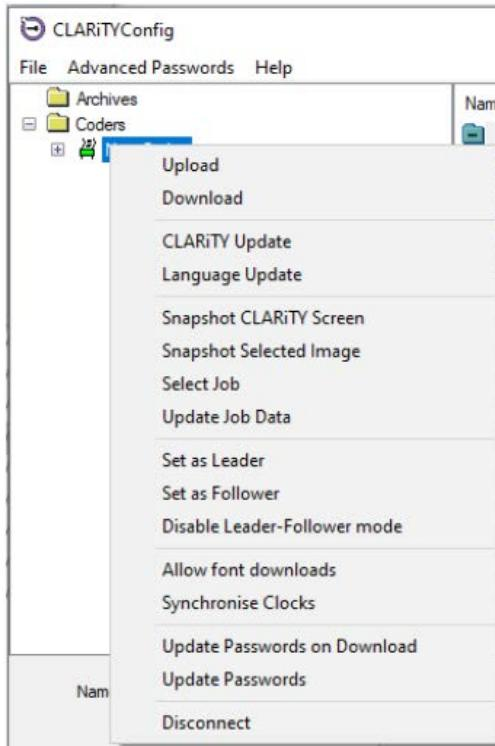

Figure 5-4: CLARiTY Configuration Manager
- 5 Click the *Upload* button (see Figure 5-4). The progress of the operation is displayed in the status panel. This uploads the LPA parameters set to the PC.**